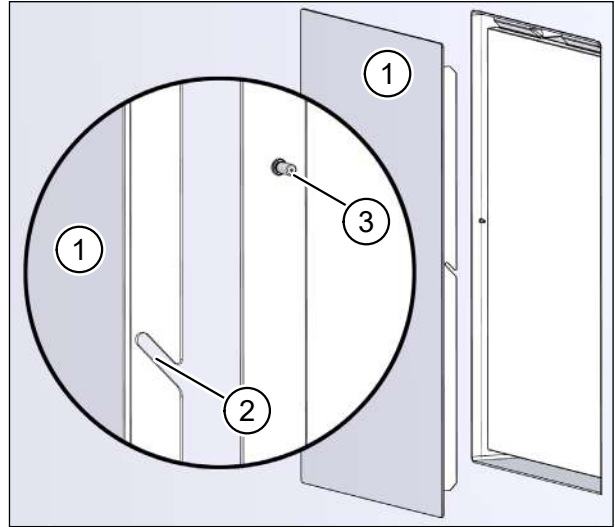

Fig. 52: Attaching the U2 cover plate
- Remove remaining plaster and other soiling so that the U2 cover plate (item 1 in Fig. 52) can lie against the internal wall without gaps.
- ▶ Carefully lower the cover plate. The recesses (item 2 in Fig. 52) on the retaining plates slide around the pins (item 3 in Fig. 52) of the wall box frame.